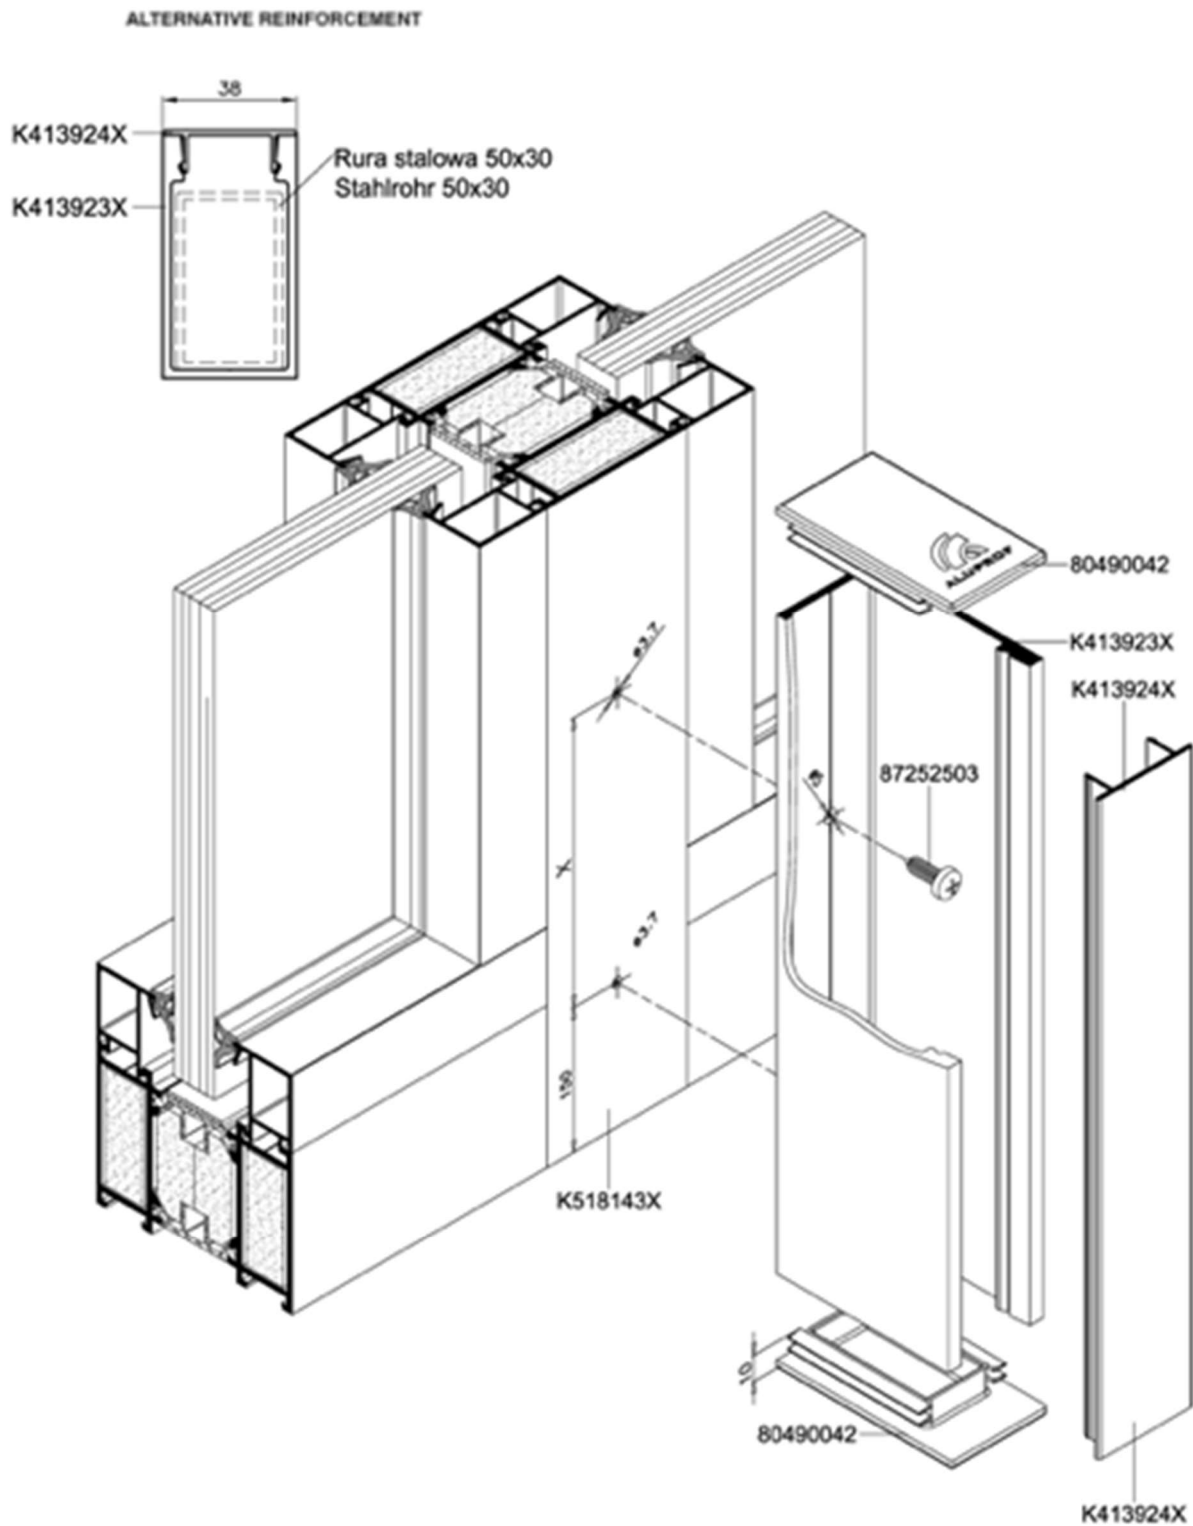

Fig. 24 Installation door system or fire wall mullion stiffening
- depending on the results of static calculations, fire resistance classes and wall heights, it is necessary to stiffen the frame mullions with a reinforcement profile K 413923 X + K 413923 X over the entire wall height, as shown in Fig. 24 and Table 3.